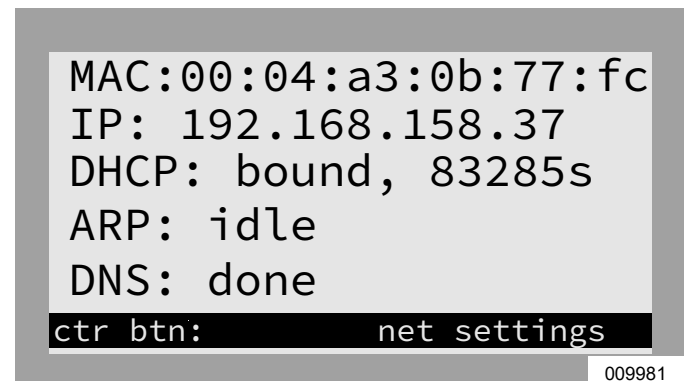

Figure 6-25. Ethernet Configuration (4 of 4)
2. See Figure 6-25. When step 1 is conducted properly and the inverter is receiving Internet, the inverter control panel will have an additional device page to configure Ethernet Settings. From the home screen, press the left arrow key.